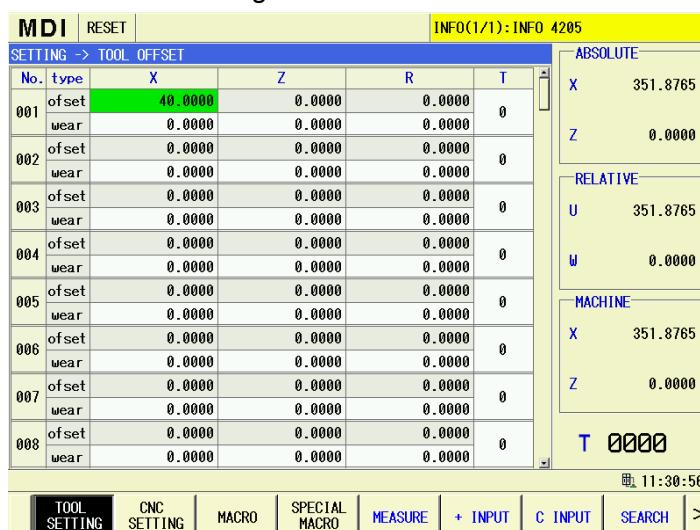

Fig.7-1
(1) On the setting page set, press **TOOL SETTING** software key to enter the tool offset administration page, which is shown as Fig. 7-1: